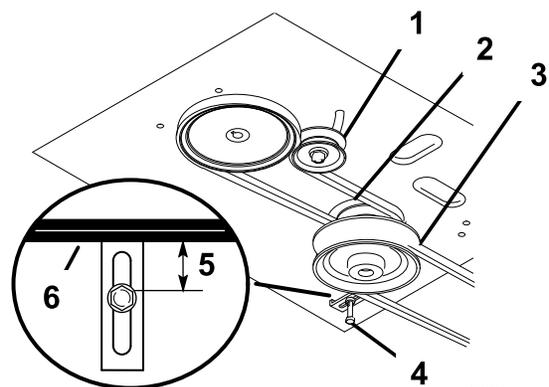

Figure 49
8. Check the belt guide under the engine frame for proper adjustment (Figure 49).
Note: The distance between the belt guide and the mower belt should be 19 mm (3/4 inch) when you engage the mower belt (Figure 49). Adjust the mower belt as necessary. The disengaged belt should not drag or fall off the pulley when the guides and belt tension are properly adjusted.